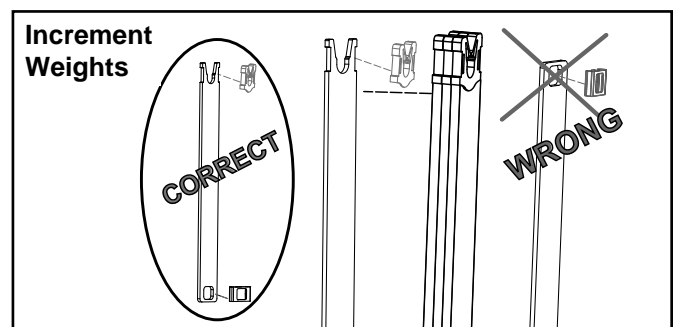

Figure 15
- I. Reinstall the six increment weights that were removed in step 6B. See Figure 15.